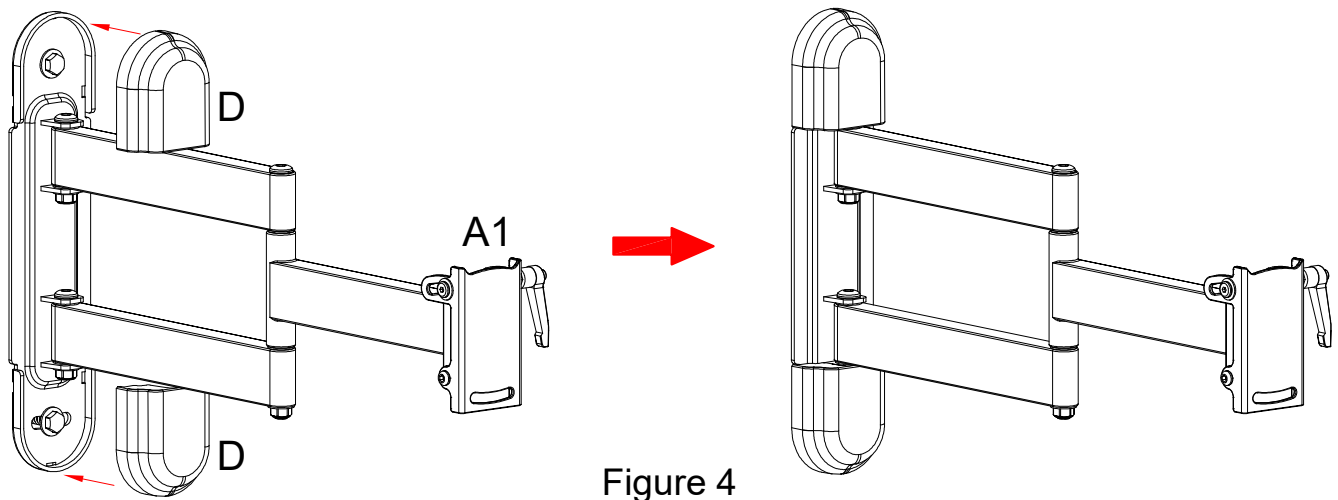

Figure 4
Step 3: Plastic Cover (D) inserts into wall plate (A1). (Figure 4)